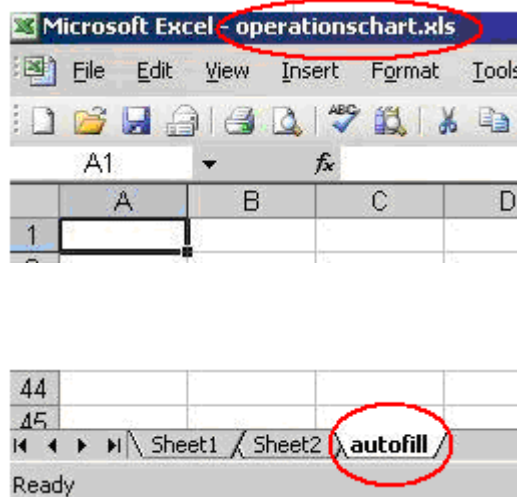

Figure 26: Empty template
5. In the config spreadsheet, insert a new template field by typing the text “Template” below the existing template entry (see Figure 26).